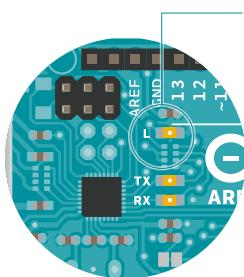

Fig. 2
- 7 A few seconds after the upload has completed, you should see the yellow LED with an L next to it start blinking. See Fig. 2.